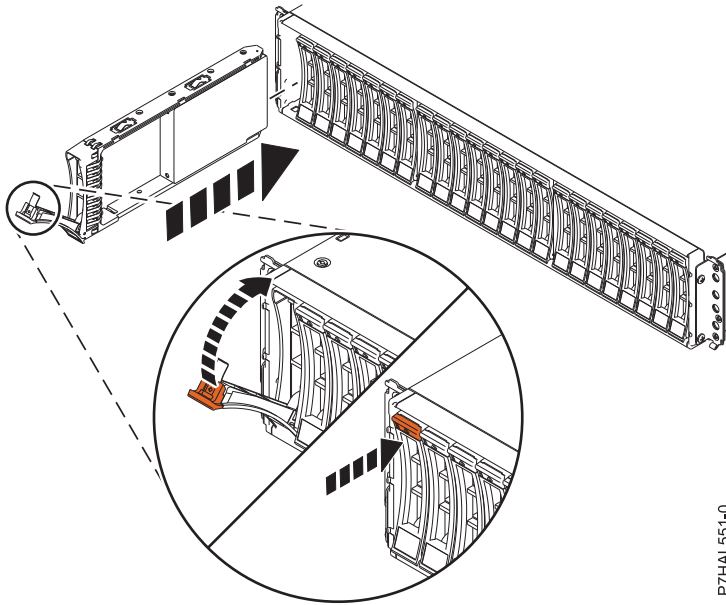

Figure 42. Replacing a disk drive in an enclosure
3. With the handle in the unlocked position, as shown in Figure 42 on page 38, support the bottom of the drive as you align it with the guide rails in the expansion unit.
8. Lock the drive by rotating the bay handle (A) in the direction that is shown in Figure 42 on page 38.